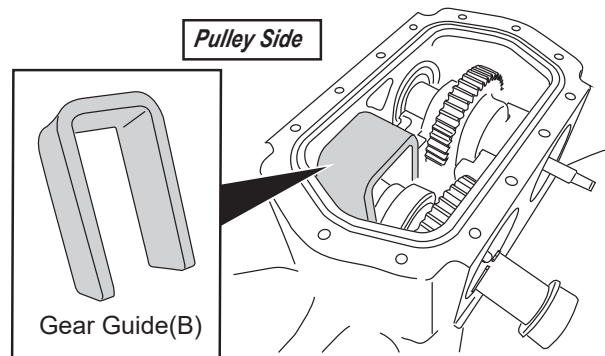

Fig.8-41
- f. Insert the gear guide (B) between the pulley side of drive gear and vibrator case.(Fig.8-41)